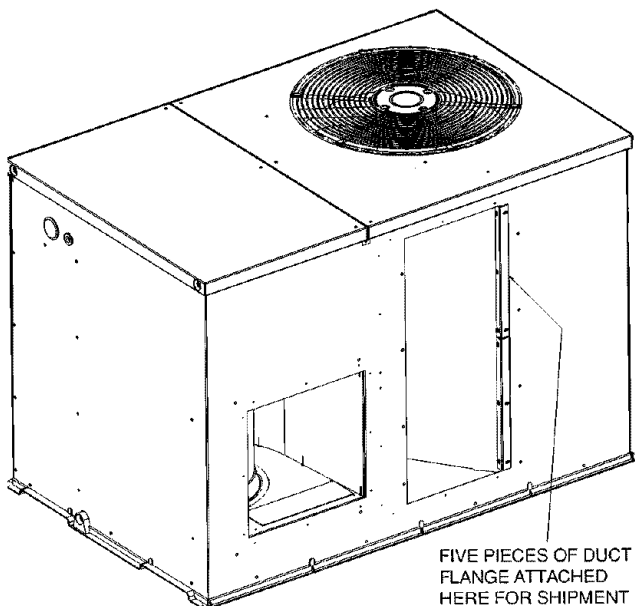

Fig. 5 — Shipping Location of Duct Flanges (Size 060 Only)
1. Five pieces of flange are shipped on the return-air opening of the unit. Remove the flanges from the shipping position. See Fig. 5. Screws are field-supplied.